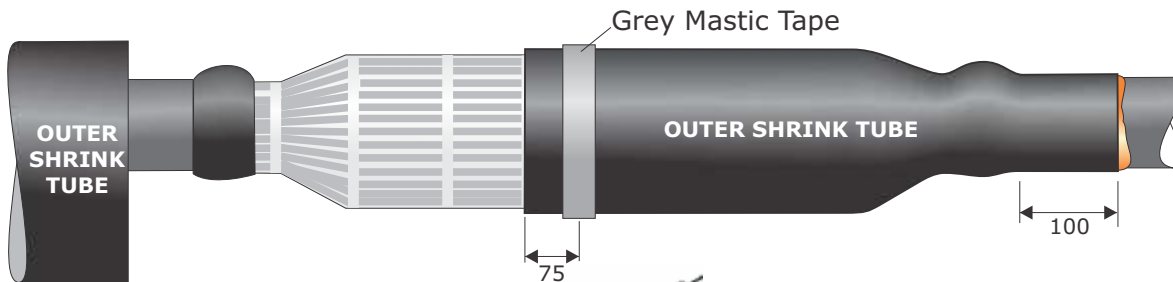

Fig 29
39. Apply a band of the grey mastic tape approx. 75mm from the end of the tube as shown in Fig 29.